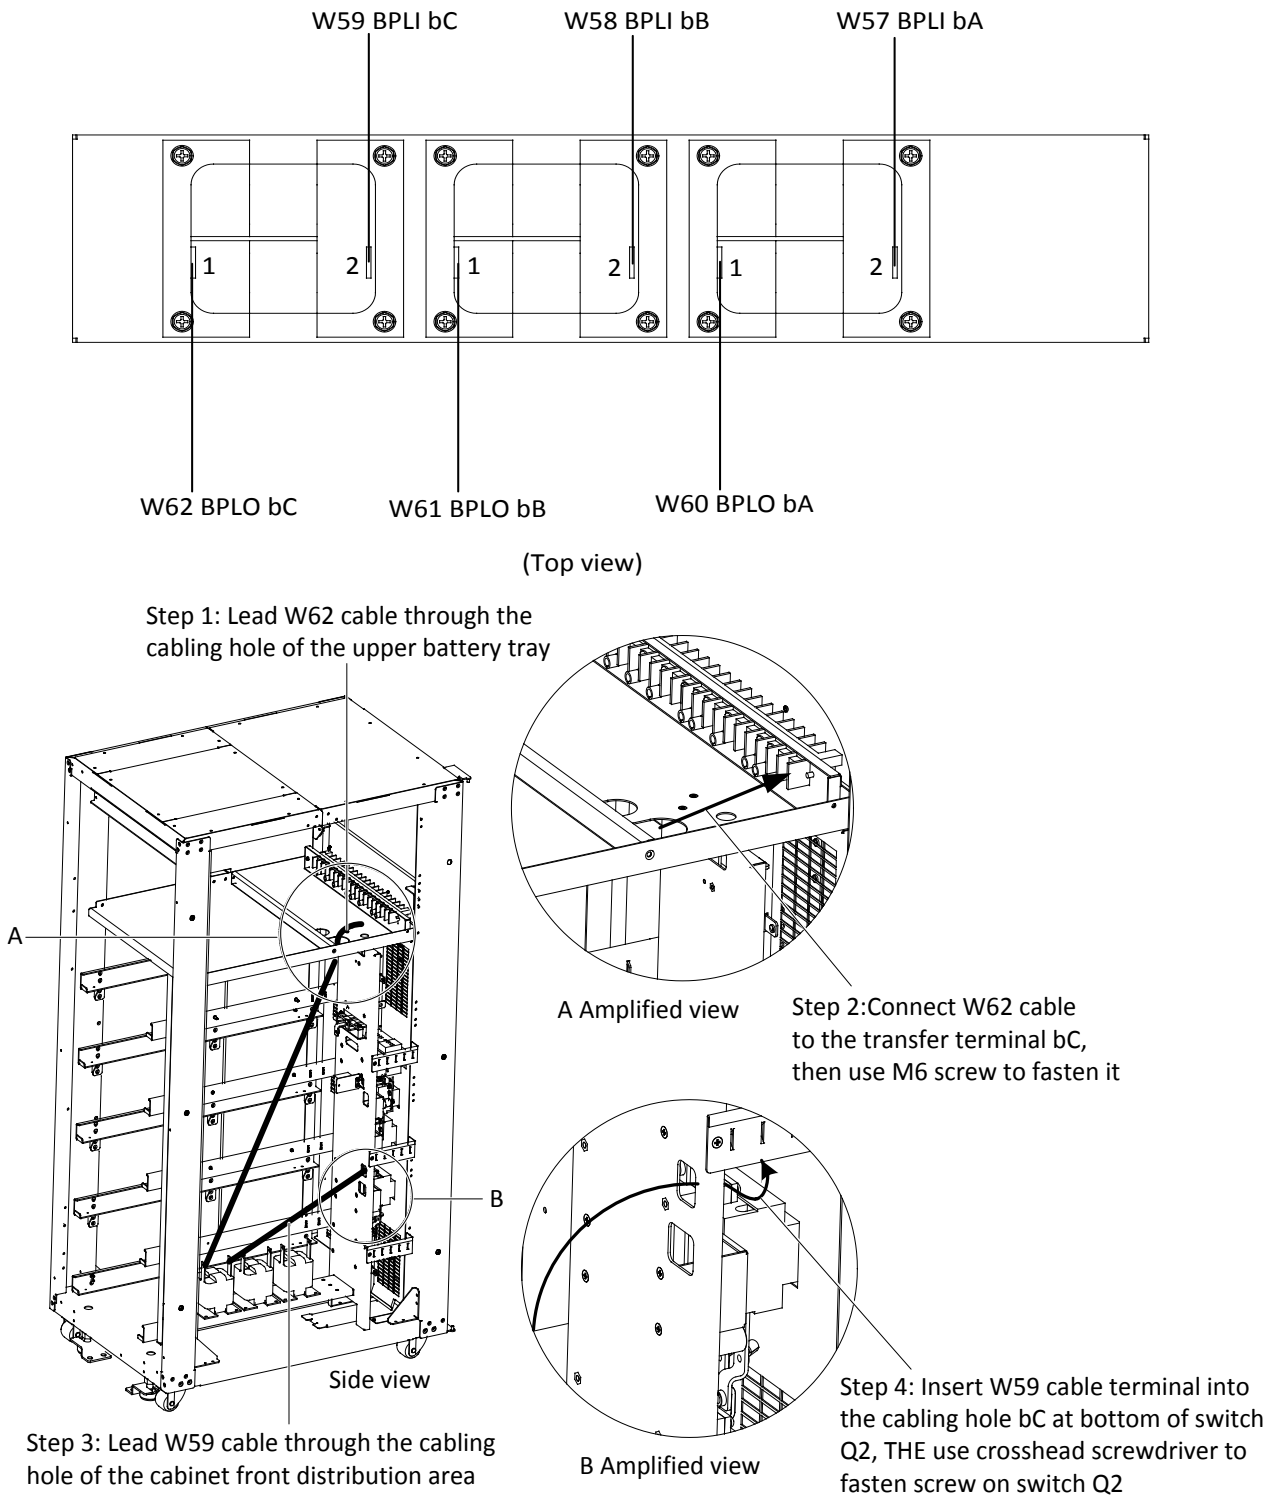

Figure 8-3 Connection of inductor 1
- a) First respectively connect one end of W62 and W59 to terminal1 and terminal 2 of inductor 1, and use the M6 × 16 sems screws, M6 flat washers and nuts to fasten the terminals. The torque value is 4.8N.m. Then respectively connect the other end of W62 and W59 to the transfer terminal bC in UPS cabinet and the corresponding cabling hole Q2-6 of bypass input switch Q2. See Figure 8-3 for details.